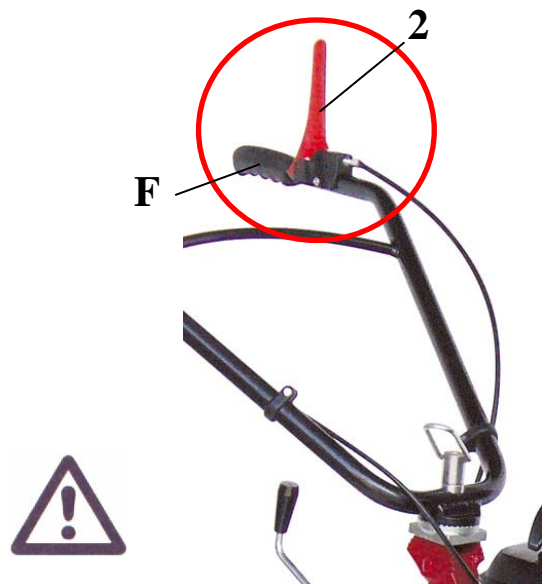

Fig. 11
- **Hold the clutch control lever lifted (fig. 11 part.2), NEVER FASTEN UP OR BLOCK THIS LEVER!!**
The main function of the lever “2” **fig. 11** is to put the tiller in movement.
This safety device disengage the tiller if the operator , for any possible reason, leave the hand “F” **fig. 11**.